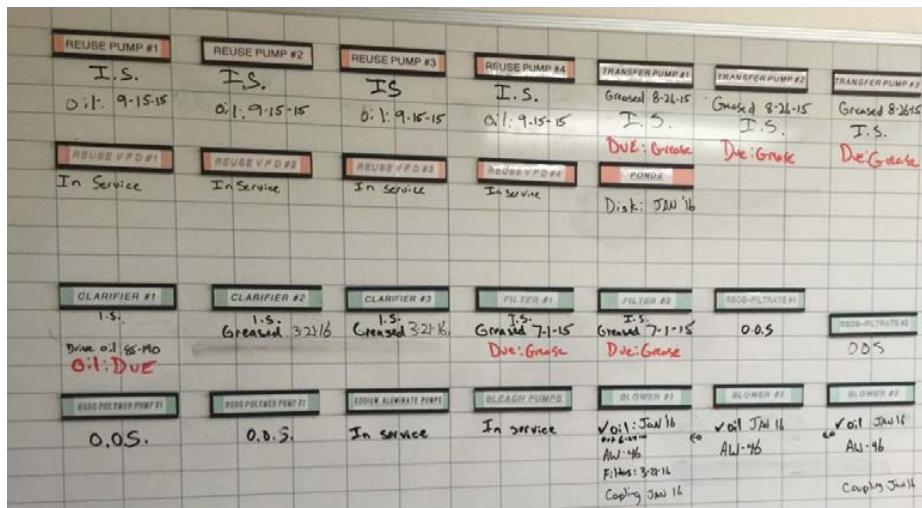

Figure 1. Example PM Scheduling at Wakiva Plant
Typical non-emergency operations and maintenance activities performed by plant personnel include daily plant checks, recording of various chemical and pH readings for the monthly operating reports, elapsed time readings on equipment, and conducting preventive maintenance activities such as oil changes and lubrication. Figure 1 shows an example of one method the Wekiva plant (Florida) currently utilizes effectively to track equipment in/out of service information, dates of last preventive maintenance (PM) activity, and PM activities currently due for equipment.